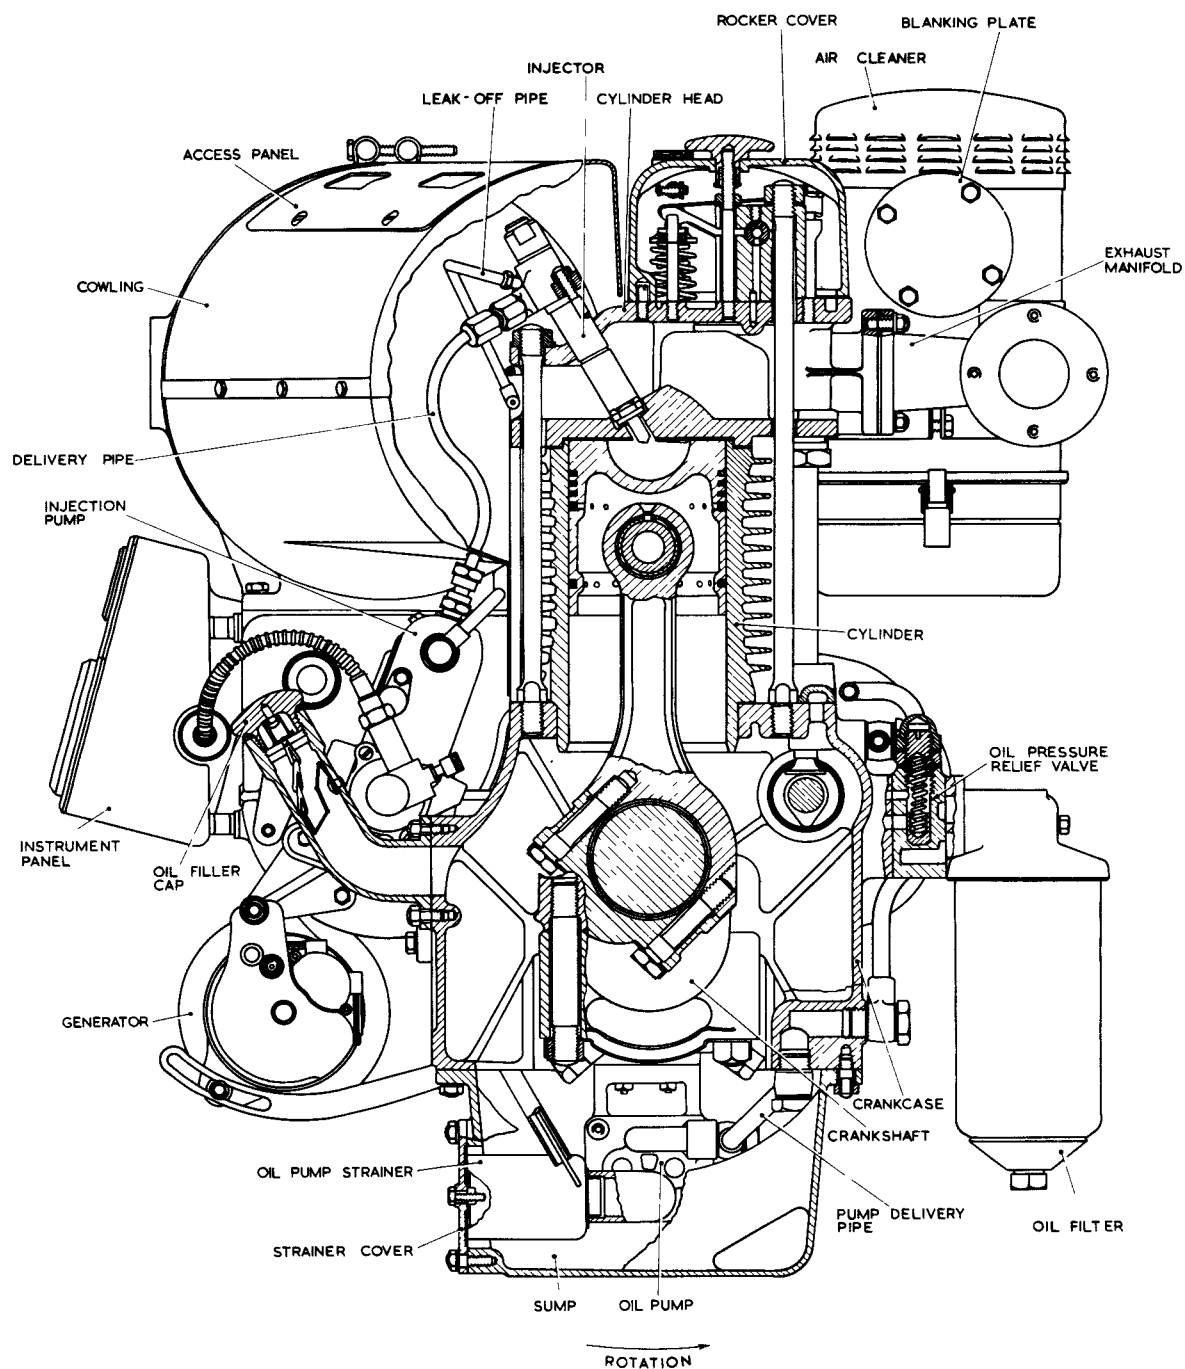

Fig.18 Transverse section of engine
86. Oversize pistons 0.020 and 0.040 in. above standard diameter are available (Table 1); the reboring operation should be completed by honing to the dimensions given in Table 2. The unworn ridge at the top of the cylinder should be removed if new rings or pistons are fitted without reboring. The diameter of the piston should be measured at right angles to the gudgeon pin, $\frac{1}{4}$ in. below the upper scraper ring. Gudgeon pins are a transition fit in the pistons and removal and fitting may be assisted by warming the pistons. The valve recesses in the crown are to the right when the connecting-rod butting faces slope up to the left (fig. 18).